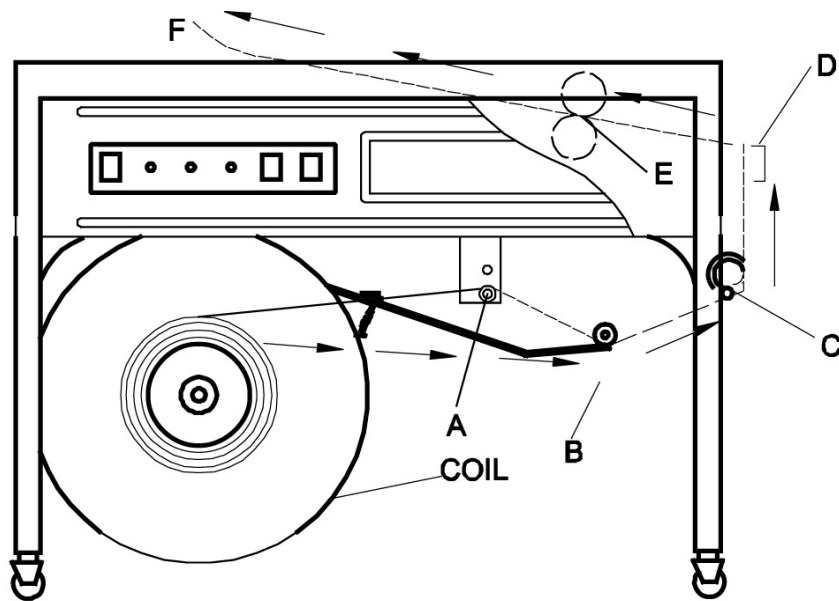

Fig.4 Feeding strap
3. FEEDING STRAPS (as shown in Fig. 4)